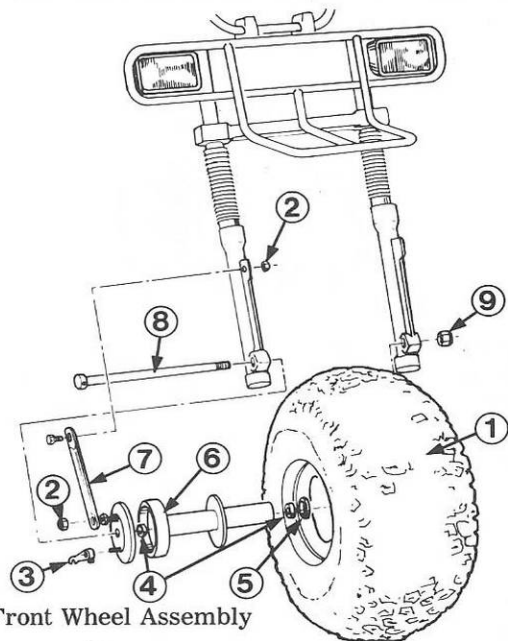

Fig. 47 ① Front Wheel ⑥ Brake Drum
5. Loosen and remove the axle nut (Figure 47).
1. Position the front wheel between the shock forks (Figure 47).